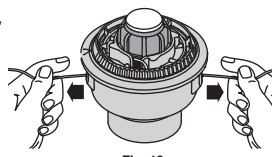

Fig. 19
9. If winding the line becomes difficult or if the line jams, pull the ends of the line from the spool (Fig. 19). Continue winding the inner reel counterclockwise.
4. Hold the inner reel in place and install the bump knob, spring and foam seal. Press down and turn the bump knob clockwise. Grasp the ends and pull firmly to release the line from the holding slots in the inner reel (Fig. 19).
If the SpeedSpool® does not release line correctly, pull the ends of the line firmly from the spool (Fig. 19). If this does not release the line, follow the Cleaning the SpeedSpool® instructions.